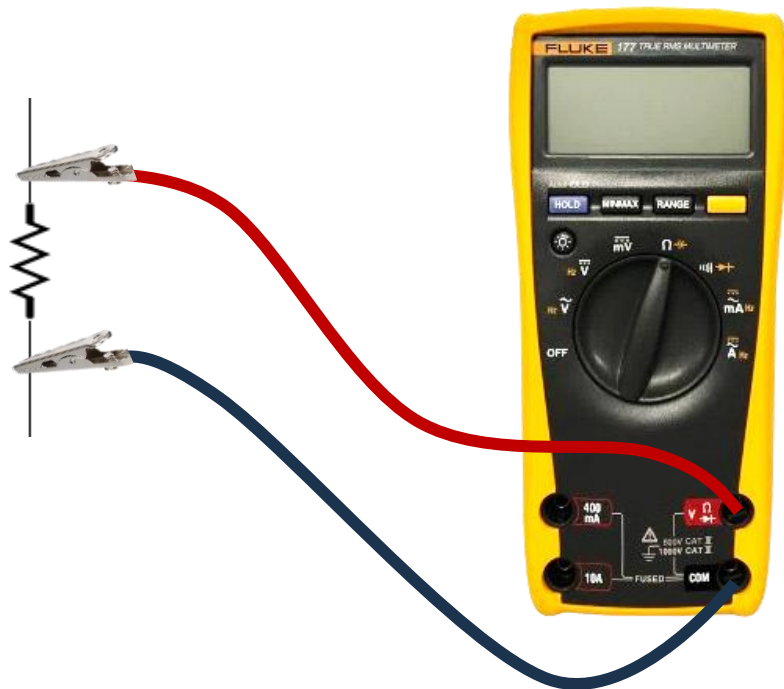

Fig. 7
- d) Connect the two probes of the multimeter **in parallel to the resistor** (**Fig. 7**).